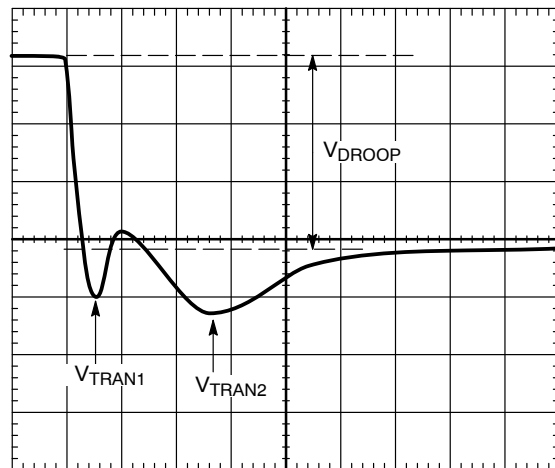

Figure 14. Transient Setting Waveform
18. With the dynamic load still set at the maximum step size, expand the scope time scale to either 2 $\mu\text{s}/\text{div}$ or 5 $\mu\text{s}/\text{div}$. The waveform can have two overshoots and one minor undershoot (see Figure 14). Here, V_{DROOP} is the final desired value.